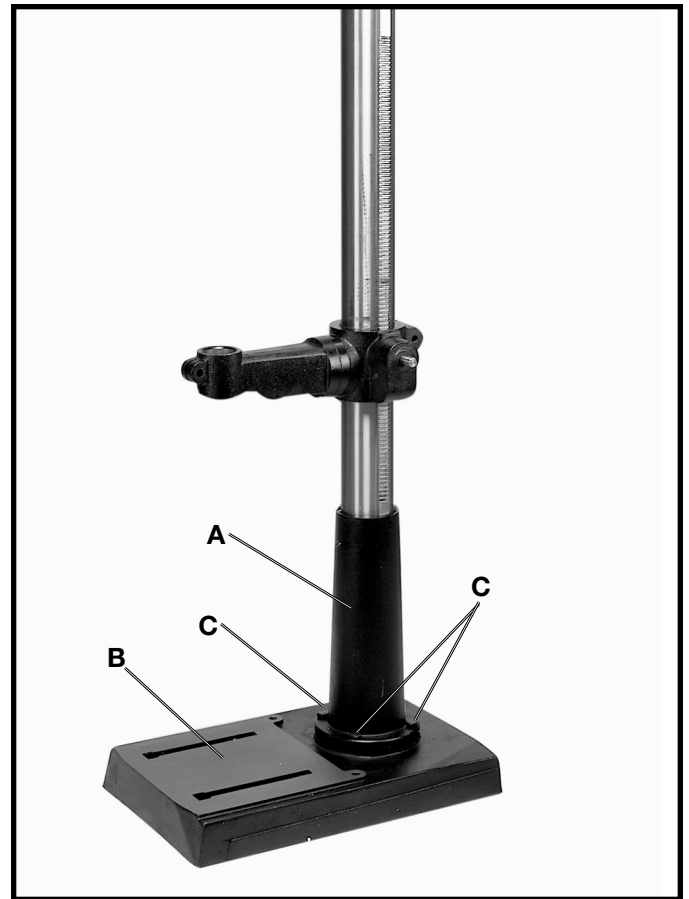

Fig. 6
6. Assemble the column (A) Fig. 6, to the base (B) using the four M10x40mm hex head screws (C), three of which are shown.